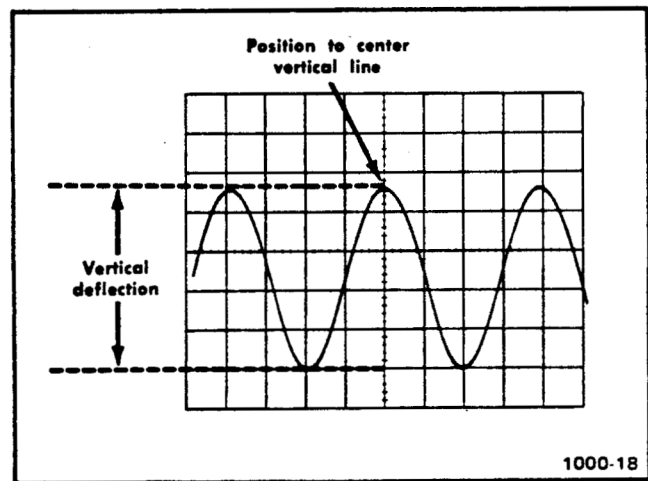

Fig. 2-3. Measuring peak-to-peak voltage of a waveform.
4. Turn the channel POSITION control so that the lower portion of the waveform coincides with one of the graticule lines below the center horizontal line, and the top of the waveform is in the viewing area. Move the display with the horizontal POSITION control so that one of the upper peaks is aligned with the center vertical reference line (see Fig. 2-3).